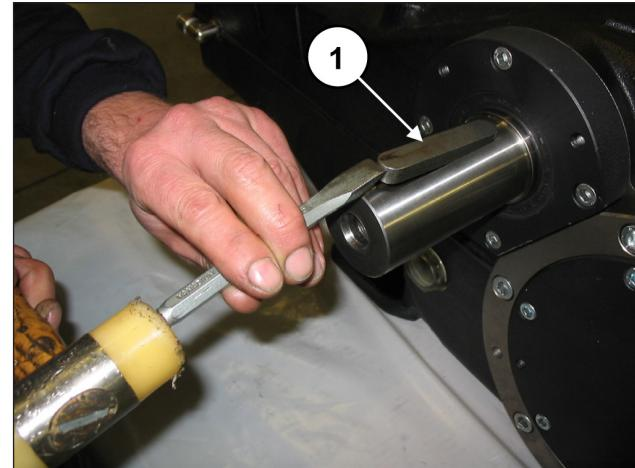

Fig. 7
Remove the tab from the PTO shaft (pos. ①, Fig. 7).